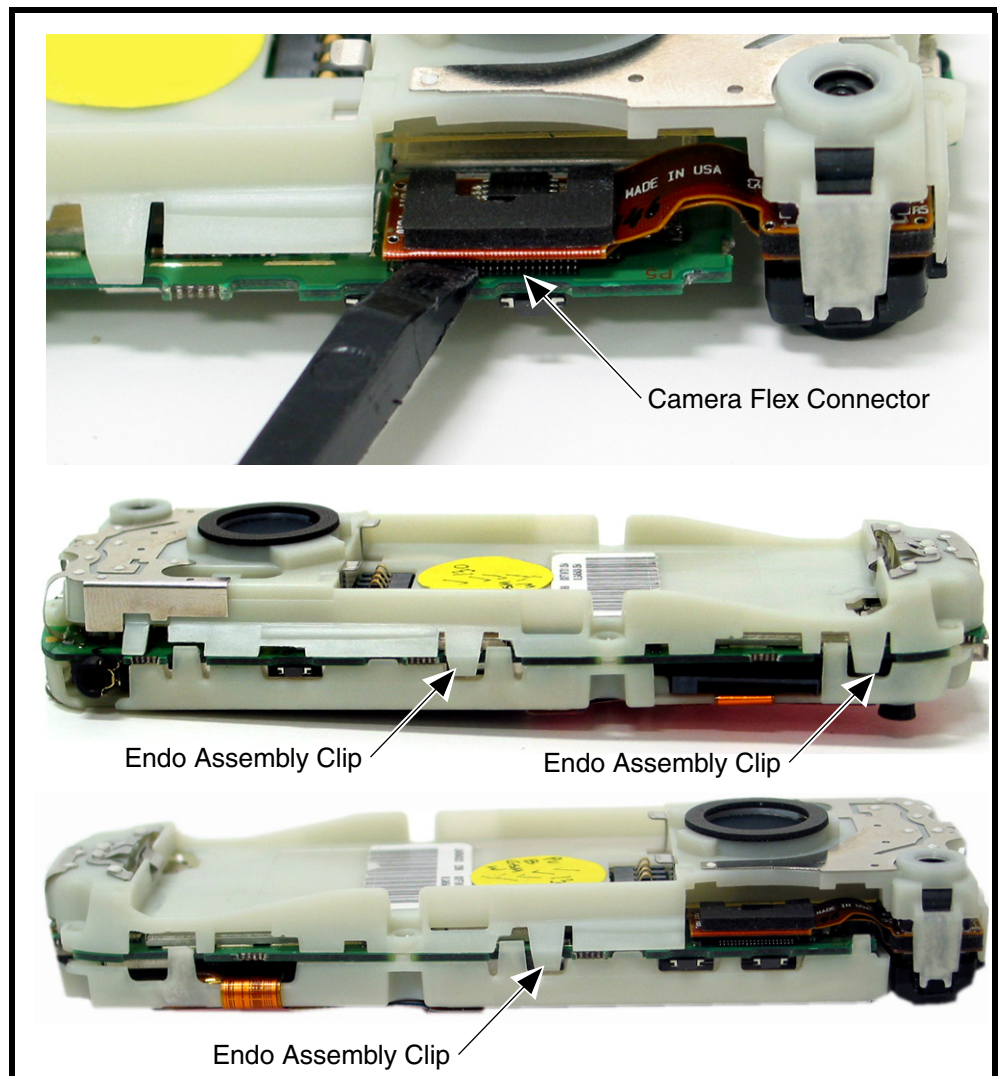

Figure 11. Removing the front and rear Endo housing
2. Carefully use the flat end of the disassembly tool to pry the camera flex connector out of its socket (see Figure 11).